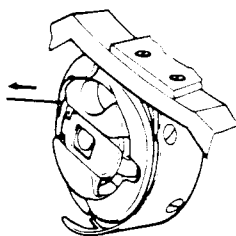

Fig. 36
1. In addition to the regular tension spring, a special spring to prevent spillage of the bobbin is provided on the bobbin case used on this machine, therefore the tensions of the two springs should be adjusted to give 20 to 25 gram thread tension when thread is pulled in the direction shown in Fig. 36.